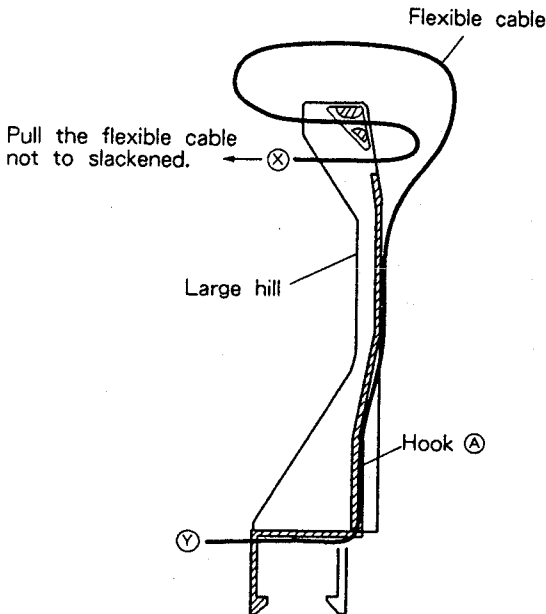

Fig. 17 Sectional plan
① Bend the flexible cable as shown below.
② Put the bended portion to hook ① of the large hill.
③ Bend the flexible cable along the wall of large hill.
④ Pull the flexible cable not to slackened after passing the ① edge side of flexible cable through the large hill as shown in Fig. 17.